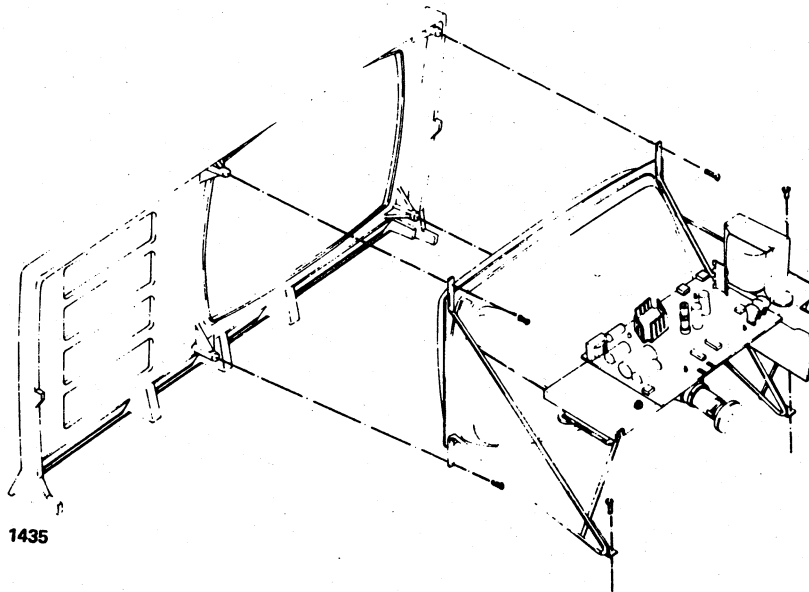

Figure 6-16. CRT Mounting to Bezel
5. Remove the 4 hex screws with a 1/4-inch socket and extension (figure 6-16). Loosen the two hex screws at bottom of the CRT.